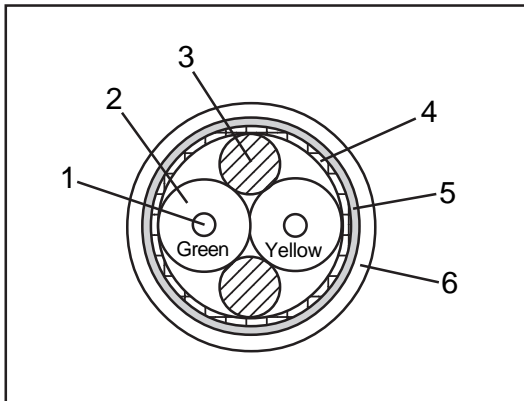
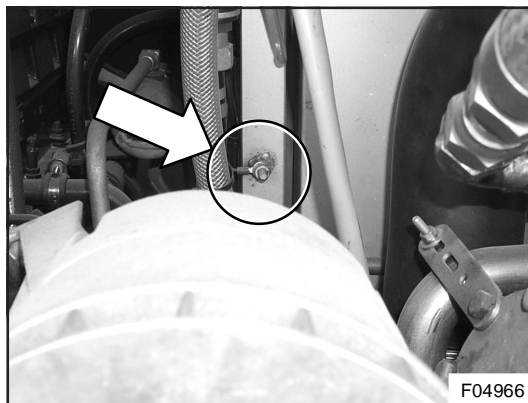

Figure 8: Section through backbone cable
Figure 9: Ground stud in engine compartment, at right side of engine
- a special wiring cable (see Figure 8). The cable contains a green (CAN-L) conductor, a yellow (CAN-H) conductor and a braid wire (shield). The "shield" is grounded to the chassis (see Figure 9) with a ring connector. A cable between a device and the backbone harness is called a "cable tail".